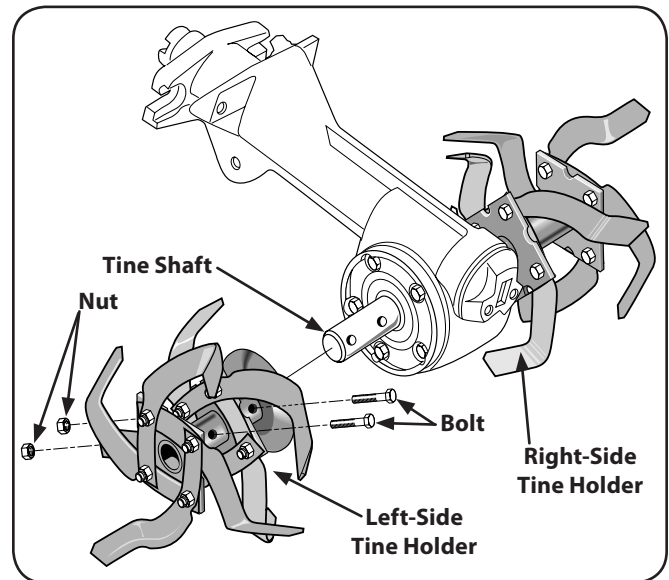

Figure 7-9
5. Use two $\frac{9}{16}$ " wrenches to remove the two bolts and nuts securing the tine to the tine holder plate. See Figure 7-9. Use penetrating oil on the hardware if it is rusted or hard to remove.
3. Remove the two bolts and nuts securing each holder. See Figure 7-9.